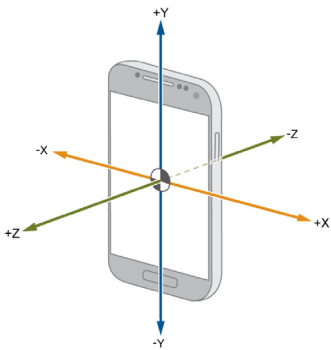

Figure 4 - Sample x, y, and z axes (z-axis measures front-to-back movement)
- e. If the sensor is a 3-axis accelerometer, select the Z-axis. The Z-axis measures movement from the front face of the sensor toward its backside (as well as from the backside to the front). See Figure 4 for an example of X, Y, and Z-axes on a smartphone.